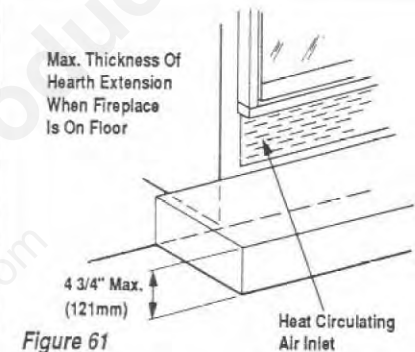

Figure 61
**WARNING: FIREPLACE MUST BE RAISED IF HEIGHT OF HEARTH EXTENSION EXCEEDS 4 3/4" (121MM) ABOVE THE BOTTOM OF THE FIREPLACE (FIGURE 61).**
Combustibles may also project beyond the sides of the fireplace opening as long as they are kept within the shaded areas as illustrated in Figure 61.